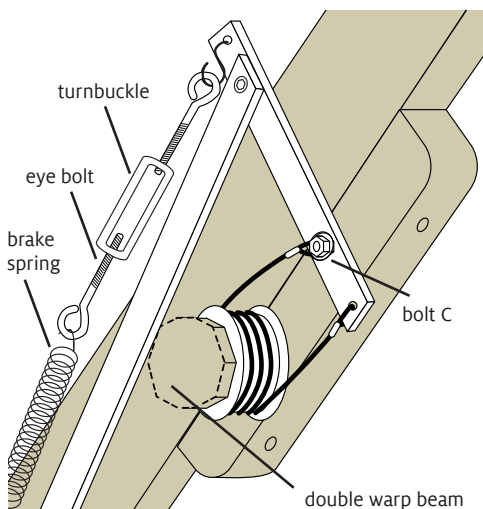

FIGURE 7: CONNECT BRAKE
16. Put another 1/4" washer on the carriage bolt at [C]. Sitting on the floor in back of your loom, wrap the brake cable around the brake hub three times, wrapping under to over from the outside of the loom towards the inside. Place the loop on the end of the cable over the carriage bolt at [C] and secure it with another 1/4" washer and a 5/16-18 lock nut (Figure 7). Make sure that the brake bar can pivot freely.
18. Reach under the double warp beam to grasp the top of the brake spring. Hook the brake spring to the eye bolt on the bottom of the turnbuckle (Figure 7).